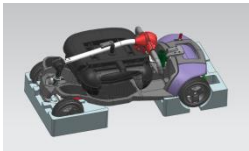

Figure 11.1
1.Fix the mobility scooter in the cardboard box by using custom foam blocks. Remove the seat and place it on the upper part of the pedal. Rotate the steering lever downward and lock it in place to the upper part of the seat. (Figure 11.1)